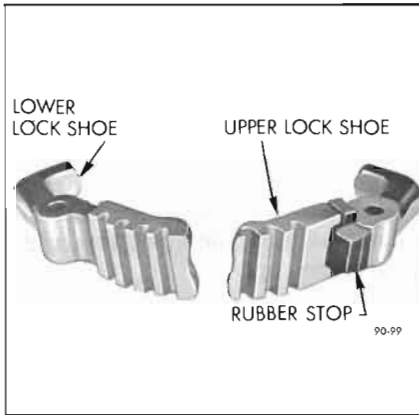

Figure 90-99—Lock Shoes
1. Drive lock shoe pins out of actuator and remove shoes and springs. The upper shoe has a rubber stop on it. See Figure 90-99.